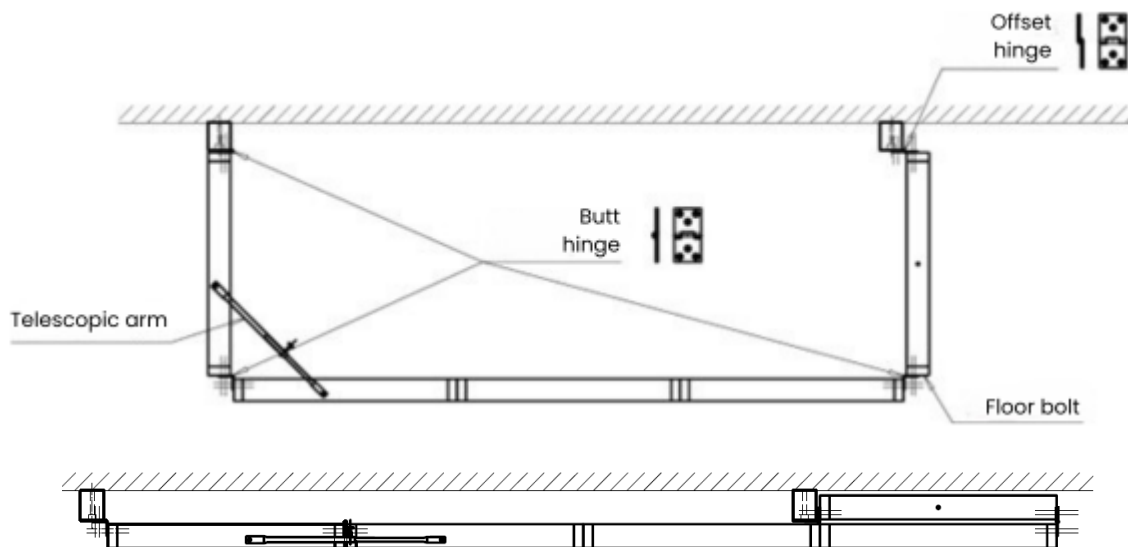
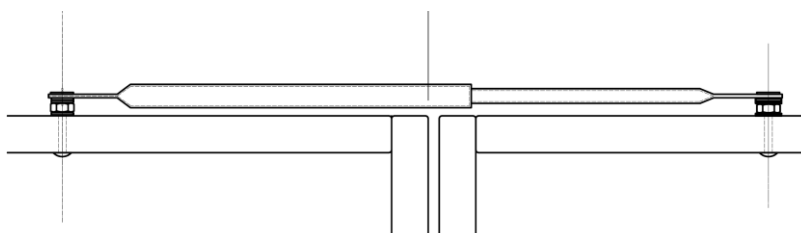

Figure 5: Position of the telescopic arm when the climbing frame is folded out and folded in
Figure 6: Telescopic arm attachment
In this next step, the telescopic arm ⑪ should be positioned across the corner between the two first sections from the left and screwed in place using the coach bolts ⑫ and sleeve nuts ⑬ as shown in figure 5. Use the hexagon nuts ⑭ and washers ⑮ to adjust the distance (see figure 6). The screws should be tightened to a point where the telescopic arm can still move, but no longer rattles.